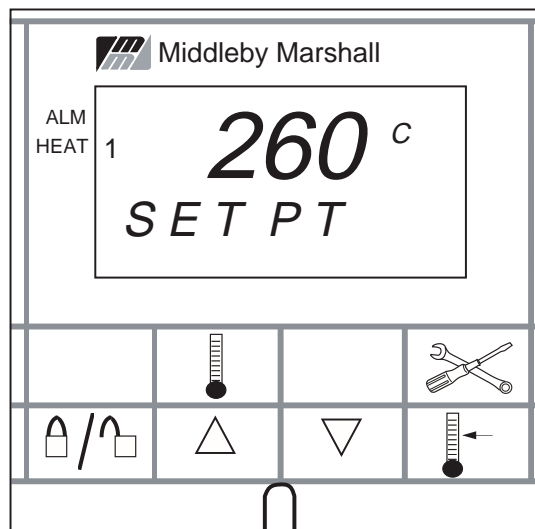

Figure 3-10
- b. HEAT - The HEAT window will display either a "1" or it will be blank. See Figure 3-10.